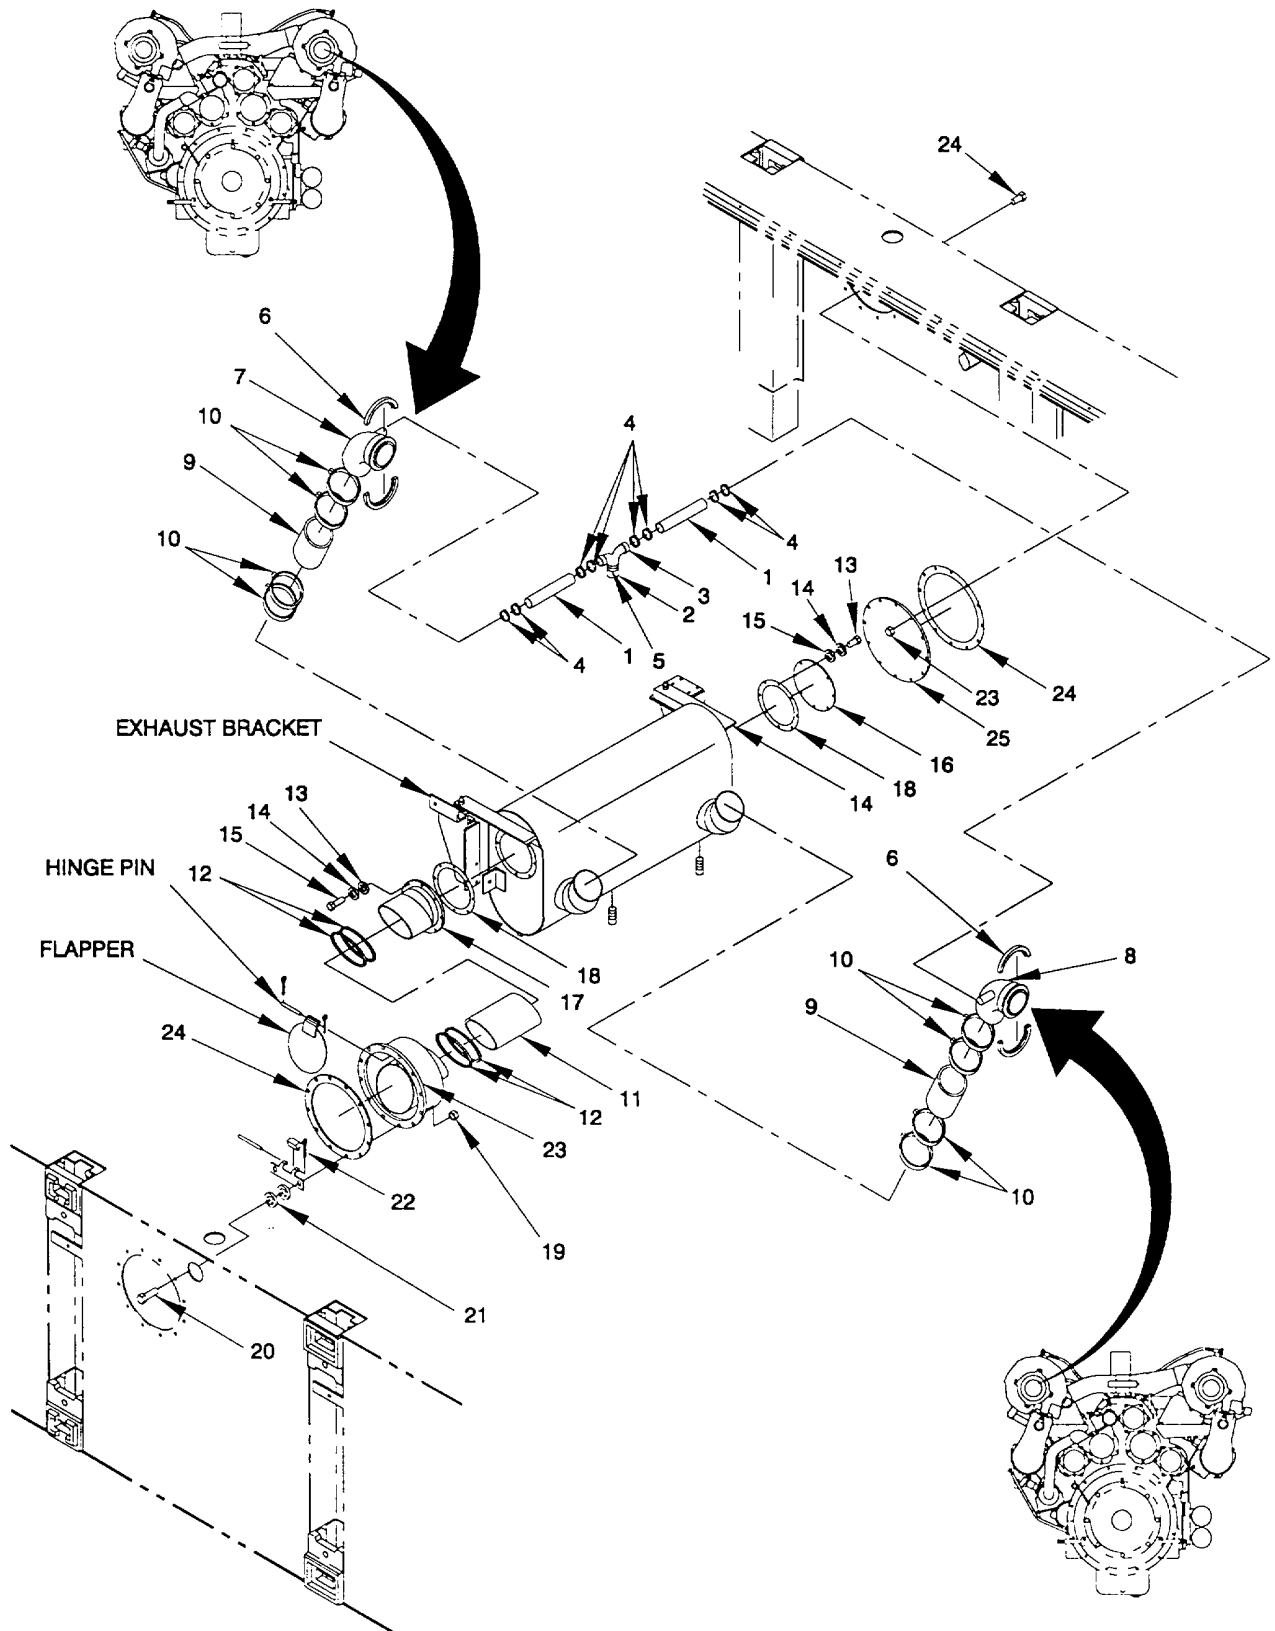

Figure 2-20. Engine Exhaust System, Remove/Install.
Lubricate hinge pins (figure 2-20)
b. Remove. (figure 2-20)
- (1) Loosen two hose clamps (4) at both ends of each of two hoses (1) between elbow exhausts (7, 8) and tee (3). Loosen two hose clamps (5) at tee (3) end of hose (2).
- (2) Remove hoses (1), hose (2), tee (3), and hose clamps (4 and 5).
- (3) Loosen eight T-bolt clamps (10) securing two hump hoses (9).
- (4) Remove two turbo install kits (6) from left hand (7) and right hand (8) elbow exhausts. Remove elbow exhausts (7, 8) and collect hoses (9) and T-bolt clamps (10).
- (5) Remove four T-bolt clamps (12) securing hoses (11) between muffler assembly and thru-hull housing (23).
- (6) Remove capscrews (13), lockwashers (14) and flatwashers (15) from both block off plate (16) and elbow (17). Collect gaskets (18).
- (7) Remove nuts (19), capscrews (20) and flatwashers (21) securing flapper retainer (22) and thru-hull housing (23). Collect gasket (24).
- (8) Remove hex nuts (23), hex head capscrews (24), and collect cover (25) and gasket (26).
c. Inspect. (figure 2-20)
- (1) Inspect gaskets (18, 24 and 26) for weakened integrity and damage. Replace if damaged or worn.
- (2) Inspect muffler body, thru-hull housing (23) and thru-hull assembly for corrosion, holes or other damage. Replace if damaged.
- (3) Inspect hoses (2 and 9) for punctures or cracks. Replace if damaged.
d. Install. (figure 2-20)
- (1) Position gasket (26), cover (25) and secure with hex head capscrews (24) and nuts (23).
- (2) Position gasket (24) and install thru-hull housing (23). Secure with flat washers (21), nuts (19) and capscrews (20).
- (3) Position flapper retainer (22) and secure with capscrews (20) and nuts (19).
- (4) Position gaskets (18), block off plate (16) and elbow (19). Secure with lockwashers (14), flatwashers (15) and capscrews (13).
- (5) Install T-bolt clamps (12) around hoses (11). Position hoses (11) between muffler assembly and thru-hull housing (23).
- (6) Position elbow exhausts (7 and 8) and install T-bolt clamps (10) loosely around hump hoses (9). Install hoses (9) on left hand (7) and right hand (8) elbow exhausts using turbo install kits (6). Secure clamps (10).
- (7) Install hose clamps (4 and 5) and hoses (2), tee (3) and hoses (1). Tighten clamps (4 and 5) at tee (3) and elbow exhaust (7 and 8) to secure hoses (1).